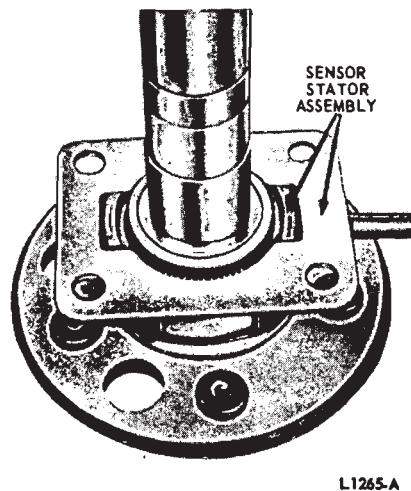

FIG. 18—Sensor Stator Assembly Installation
2. Install the sensor stator over the rotor (Fig. 18) and press the bearing and bearing retainer onto the shaft (Refer to Part 15-02).